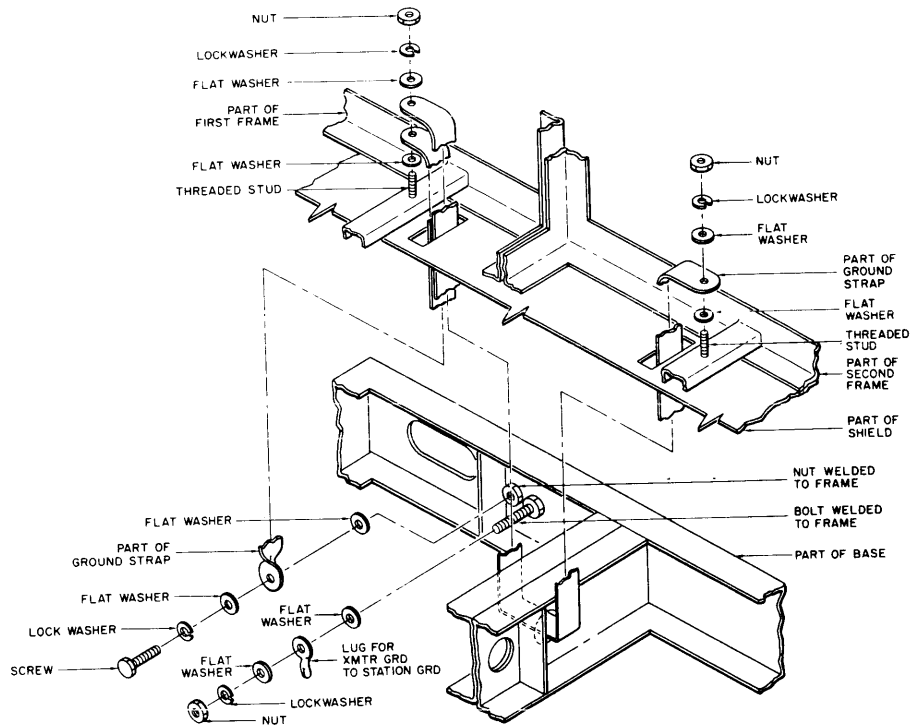

Figure 2-5. Ground Straps, Installation Diagram
- (4) Using hardware from crate 1 (bag-ground strip mounting kit), bolt grounding straps (contained in crate 1) as indicated in figure 2-5 to the base assembly.
1. Grounding straps connected in step (4) must be bent and routed through small rectangular access holes in shield (figure 2-5). Ground straps coming through shield will be connected later.
- (g) Using the remaining hardware from step (4), bend and mount the ground straps to threaded studs in bottom rear of frames (refer to figure 2-5).